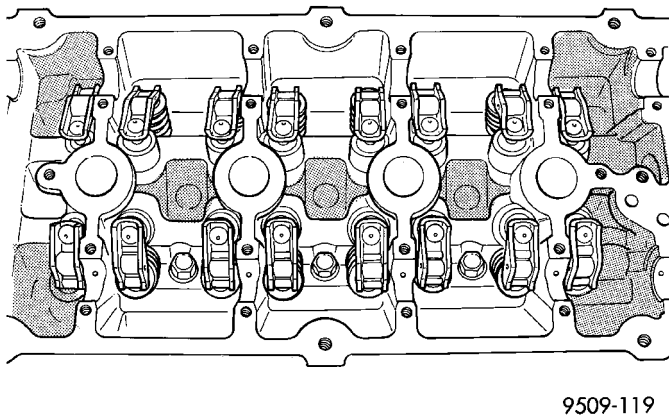

Fig. 28 Cam Follower Assemblies—Installation
(1) Install hydraulic lash adjuster assembly making sure that adjusters are at least partially full of oil. This is indicated by little or no plunger travel when the lash adjuster is Lubricate with clean oil and install cam follower assemblies in their original position on the hydraulic adjuster and valve stem (Fig. 28).
(2) Install the camshafts. Refer to procedure previously outlined in this section.